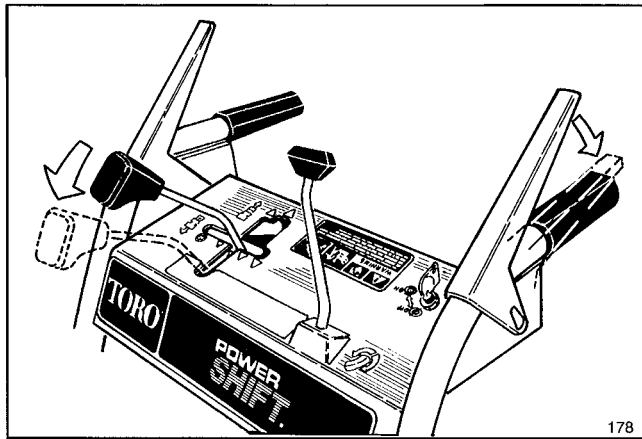

Figure 18
2. To move wheels to front or rear position, move shift control fully forward to Power shift position and hold (Fig. 18).
3. Fully engage traction drive lever to move wheels into alternate position (Figs. 18 & 19).